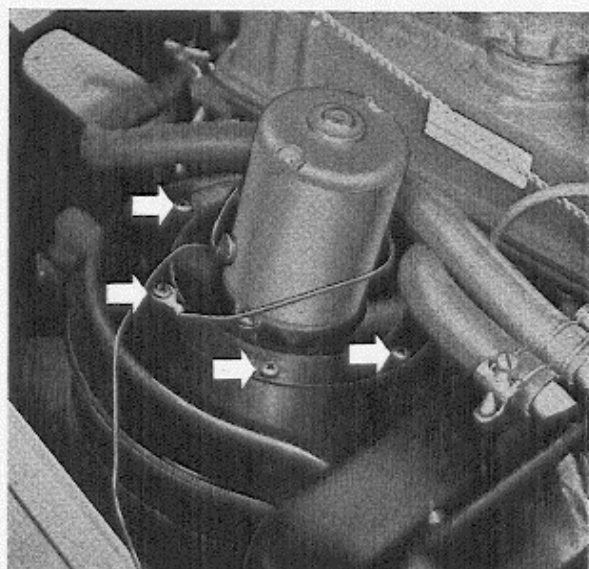

Fig. 31. Fan motor for heater.
2. Remove the six screws which hold the fan motor to the casing. The screws are marked with arrows on Fig. 31 (two of the screws are not visible).